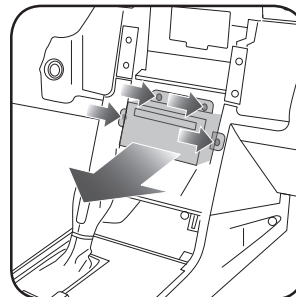

Fig. 1.7
6. Remove four (4) screws holding the radio body, remove and unplug the radio. (Fig. 1.7)